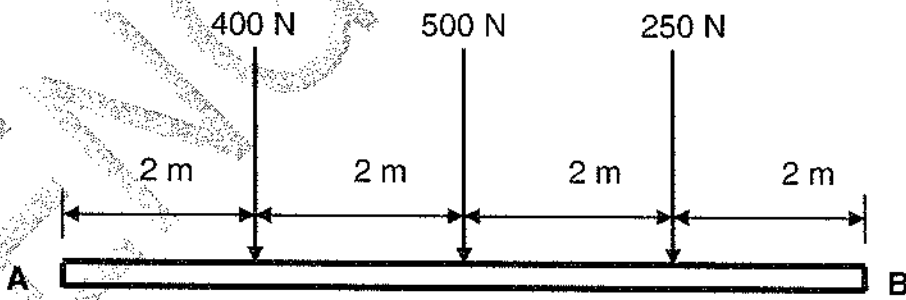

FIGURE 4
- 7.2 Determine, by means of the link polygon method, the position and magnitude of the resultant of the three forces acting on the beam A–B shown in FIGURE 4 (ADDENDUM – attached).